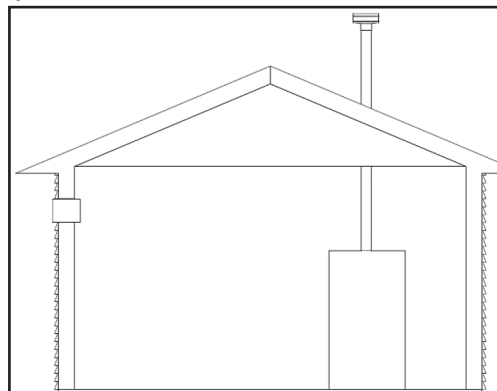

Figure 18 - Combustion Air from Outdoors - Single Opening
4. If a single combustion air opening is provided to bring combustion air in directly from the outdoors, the opening must be sized based on a minimum free area of one square inch per 3000 BTU/hr. This opening must be located within 12" of the top of the enclosure. See Figure 18.